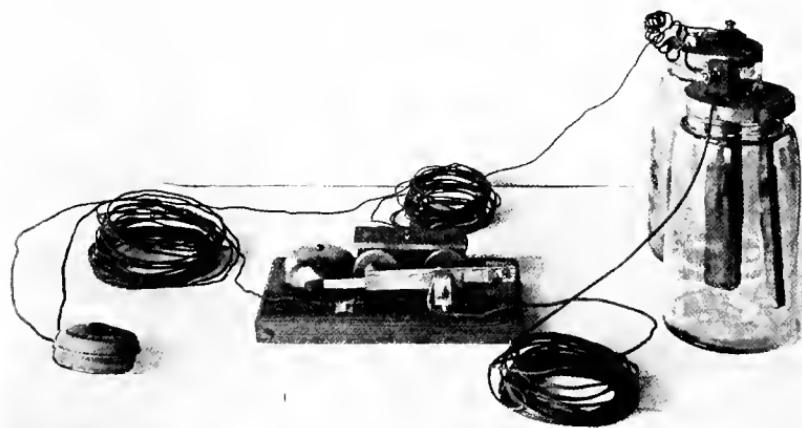

FIG. 229.—A HOME-MADE ELECTRIC-BELL, BATTERY AND PUSH-BUTTON.
**A Home-Made Push-Button.** A splendid push-button can be made with a shoe-polish can (Fig. 250). This is shown in connection with the home-made electric-bell outfit in Fig. 229.